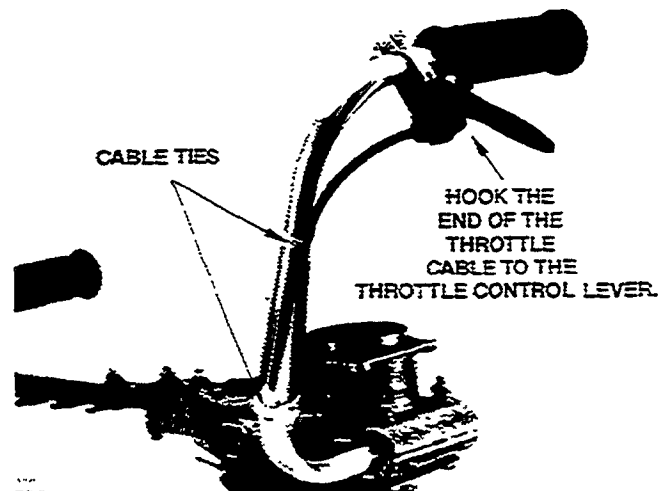

Figure 6
- Route throttle cable around handle tube as shown in (Figure 6) and install cable end into lever as shown.